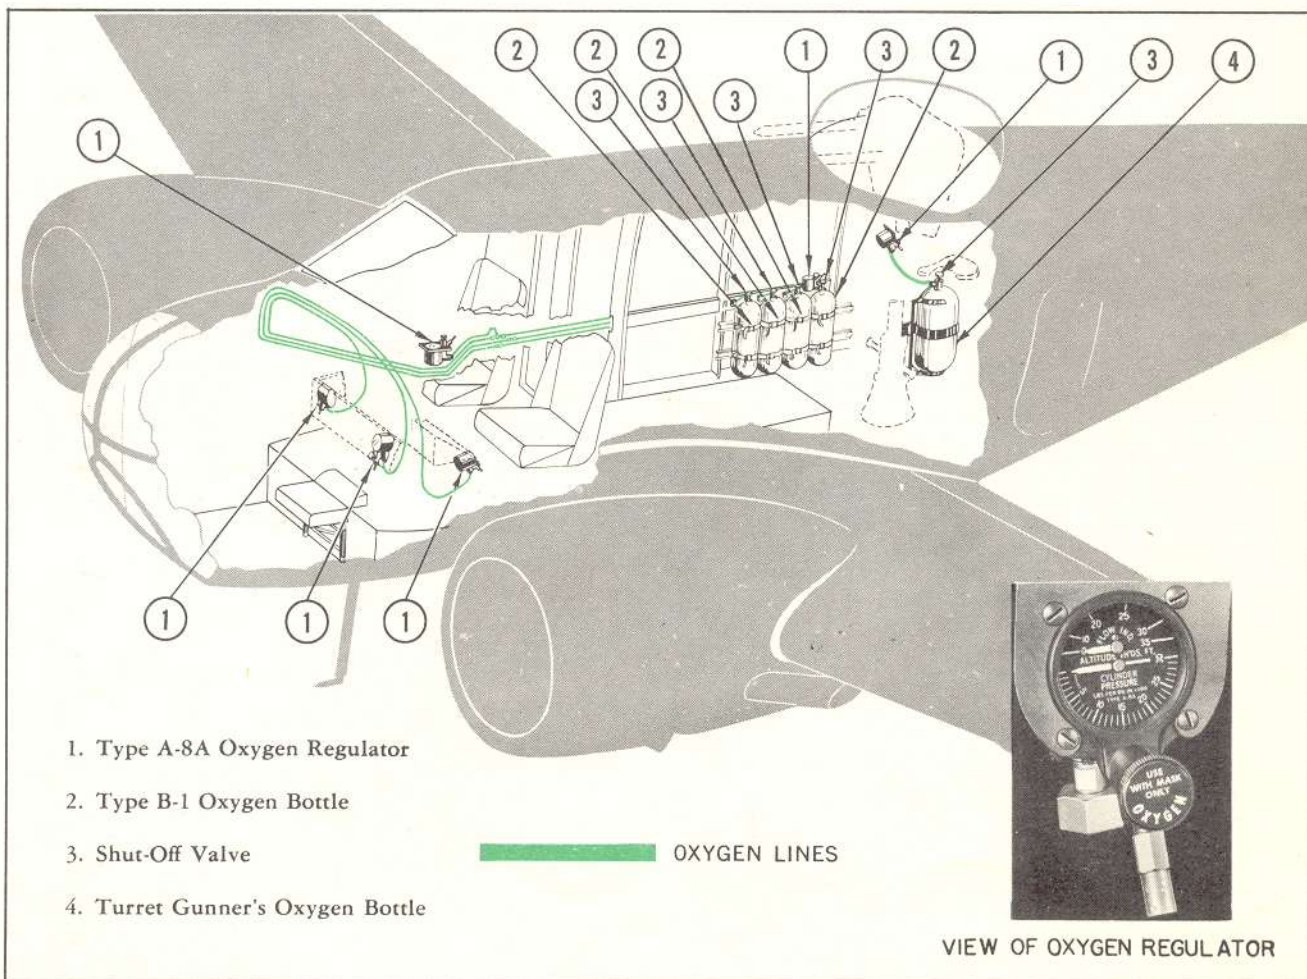

Figure 6—High-Pressure Oxygen System
(1) HEATING SYSTEM.—Hot air for pilots' compartment and cabin is provided from the intensifier tube installed in engine exhaust tail pipe. Conductor tubes also carry hot air to pilots' windshield and bombardier's compartment for defrosting purposes.
(2) VENTILATING SYSTEM.—Cold air enters openings in the leading edge of center section wing and is conducted by conduits to pilots' compartment and cabin. Exhaust ports in roof of cabin provide escape for old air.
b. OXYGEN SYSTEM. (See figures 6 and 7.)—Oxygen equipment is installed for five people.
(1) HIGH PRESSURE SYSTEM. (See figure 6.)—An oxygen bottle, type B-1, for each crew member, is strapped on right side of cabin, except for turret gunner. His oxygen bottle is located on the turret. Regulators for bombardier instructor and student bombardier are located on instrument panel guard rail. A